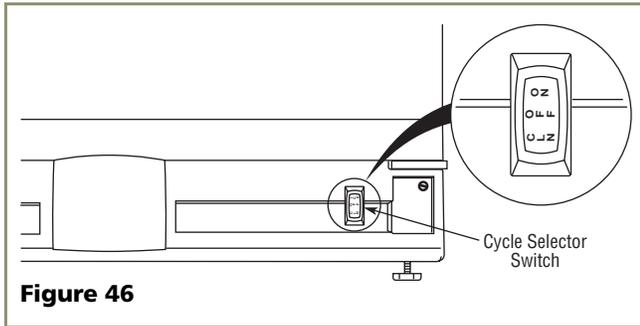

Figure 46
2. Make sure the cycle selector switch is in the OFF (middle) position (see **Figure 46**).
Once installation and leveling is complete, the unit is ready for initial start-up and operation. The cycle selector switch is located in the front grille (see **Figure 46**).